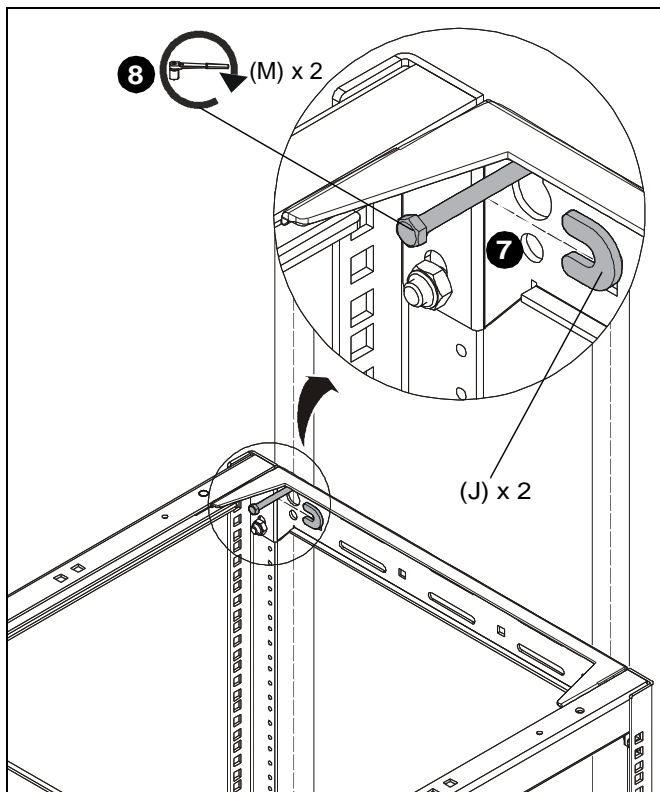

Figure 17
7. Slide two "U" washers (J) onto lag bolts (M). (See Figure 17)
8. Tighten two lag bolts (M) until "U" washers are pulled firmly against the brace. (See Figure 17)